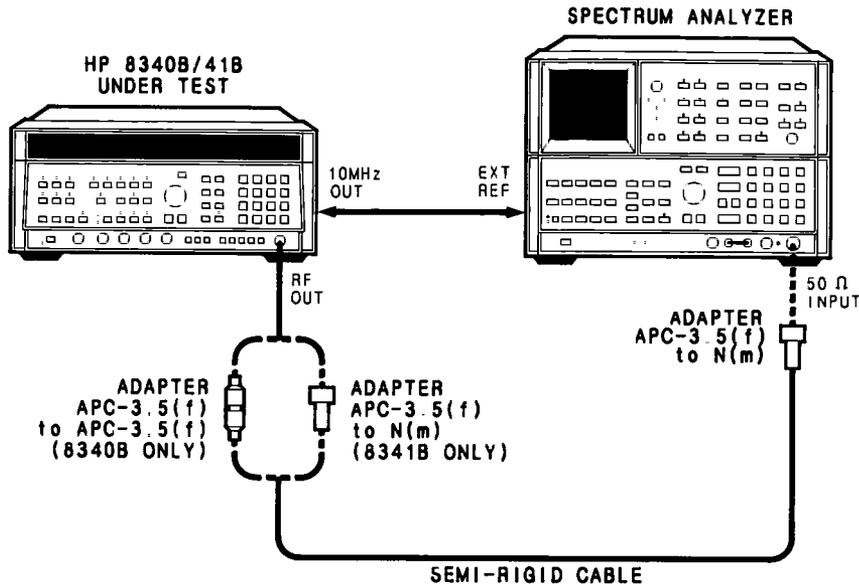

Figure 4-7. Spurious Signals Test Setup (10 MHz to 22 GHz - HP 8340B)
1. Connect equipment as shown in Figure 4-7. The position of the DUT can affect spurious responses; therefore, place the DUT in its normal operating position (i.e., flat on its feet) for this test. Allow the instruments to warm up for one hour.